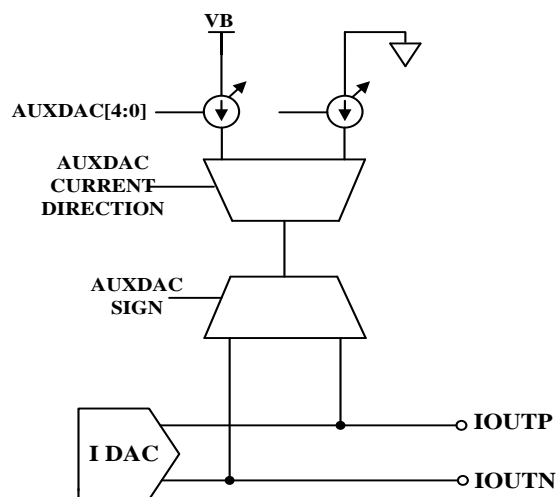

Figure 7-31. Auxiliary DAC Structure
The B9122RH has two auxiliary DACs: one associated with the I path and one associated with the Q path. These auxiliary DACs can be used to compensate for dc offsets in the transmitted signal. Each auxiliary DAC has a single-ended current that can sink or source current into either the positive (P) or negative (N) output of the associated transmit DAC. The auxiliary DAC structure is shown in Figure 7-31.